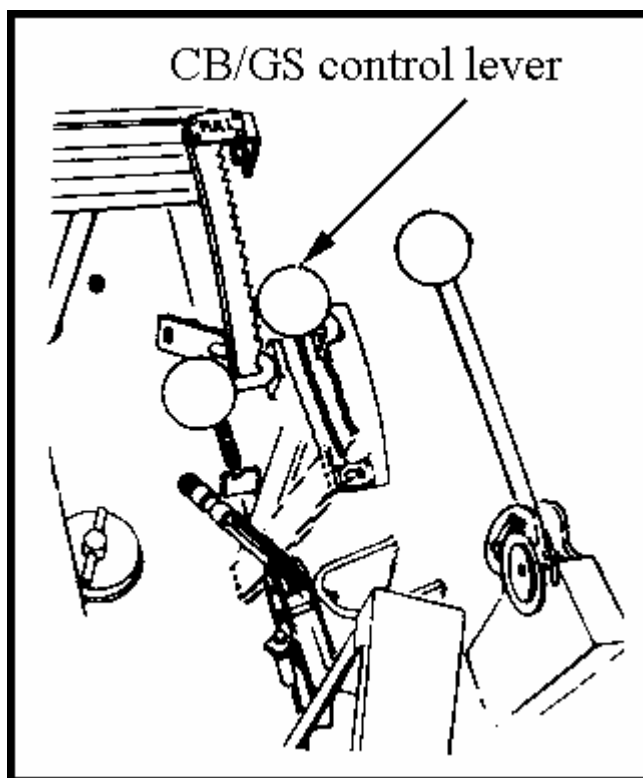

Figure 052-227-1240-1
2. Place the clutch-break (CB)/gear-steer (GS) control lever in the CB position (Figure 052-227-1240-1).